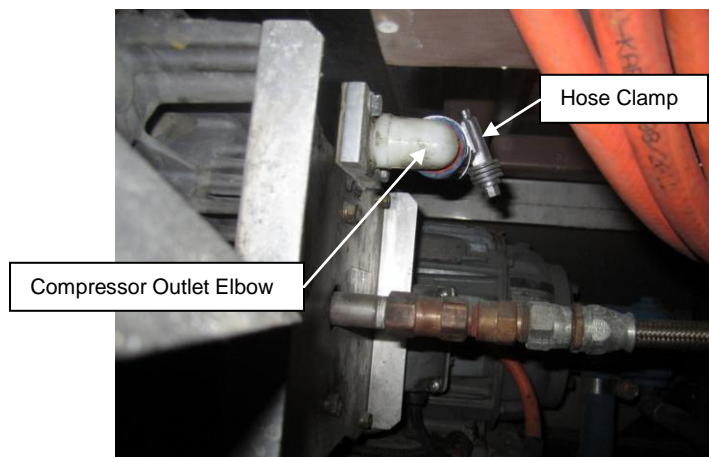

Figure 5: Hose Attached to Compressor Intake Elbow
9. Install a 90 deg elbow NF P/N 494262 on the compressor intake. Figure 5. Use pipe thread sealant or Teflon tape on the NPT threads.